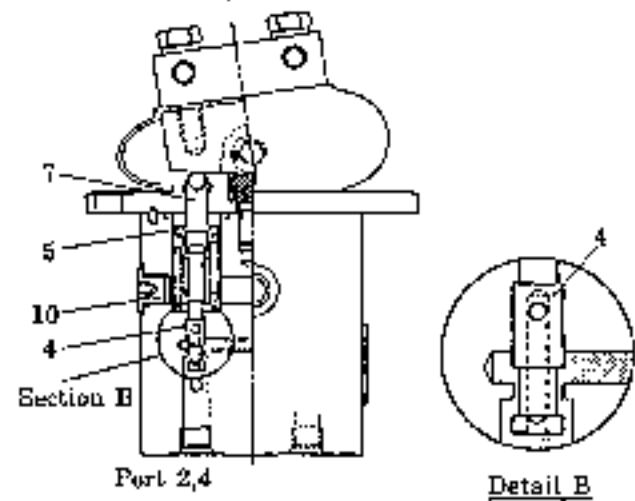

Fig. 4 Lever tilted
### (2) Lever tilted (See Fig. 4)